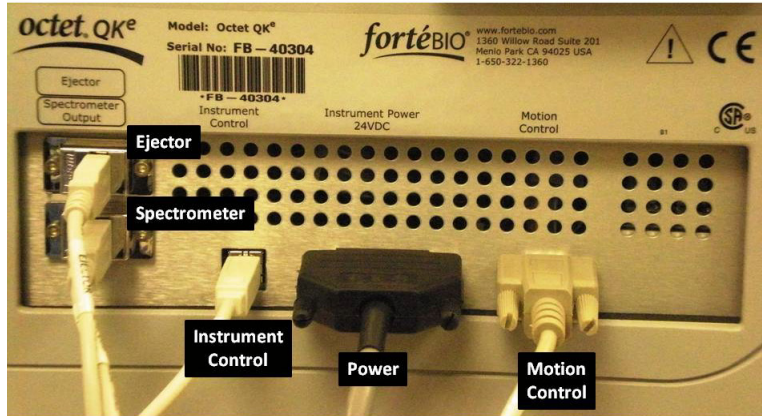
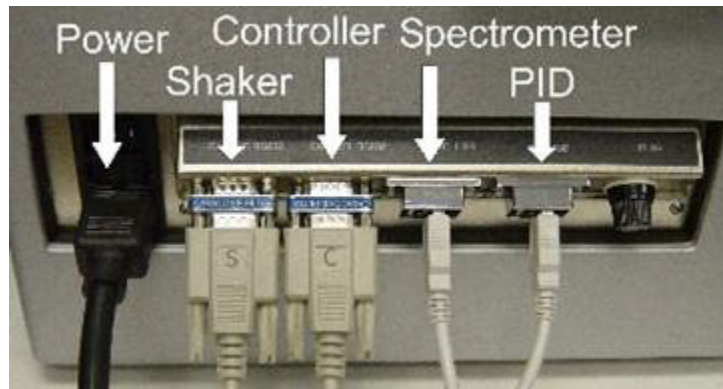

FIGURE 2.1 OCTET QK^e INSTRUMENT BACK PANEL, COMMUNICATION CABLE CONNECTIONS
FIGURE 2.2 OCTET QK INSTRUMENT BACK PANEL, COMMUNICATION CABLE CONNECTIONS
- 1.2. Connect one end of each communication cable to the Octet instrument back panel (Figure 2.1 for Octet QK^e or Figure 2.2 for Octet QK). Each cable is labeled with the port it should be plugged into.